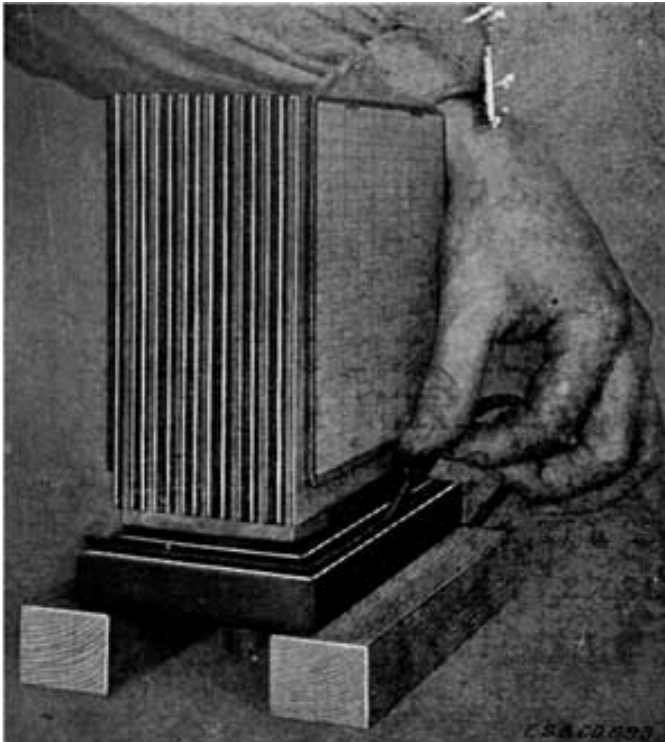

Fig. 242. Laying "Worm" of Sealing Compound in Exide Double Flange Cover
2. Batteries with double flange covers, as shown in Fig. 242. This class includes types MHA, KZ, KXD, LXRE, and XE. The cover constructions are described in Chapter 3.
For Types KXD, KZ, LXRE, MHA, and XE, which have the double flange type of cover, have ready a string or worm of sealing compound about 3-16 inch in diameter, made by rolling between boards some of the special compound furnished for the purpose. The cover may or may not have been attached to the element, depending on how repairs have been made. In either case the procedure is the same as far as sealing is concerned. Assuming the element is attached, stand it upside down, with the cover resting upon two strips, Fig. 242. Lay the string of compound all around the cover channel. Now turn right side up and insert in the jar, taking care that the jar walls enter the cover channels at all points. Apply heat carefully to the edges of the cover and gently force cover clown. If too much compound has been used, so that it squeezes out around the cover, scrape off the excess with a hot knife while forcing cover down.